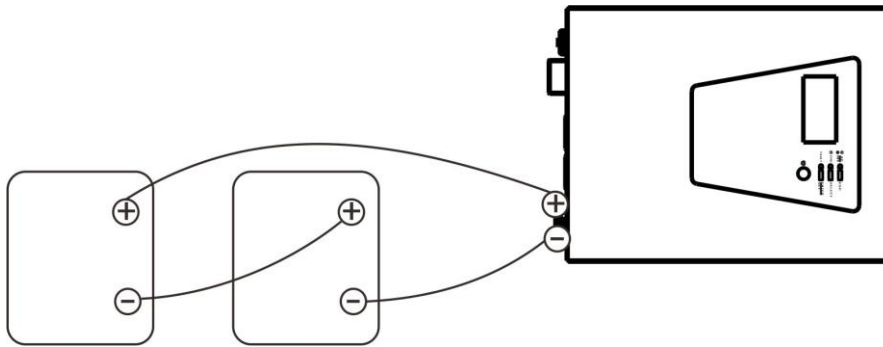

Fig 3
2) Multiple batteries in series connection(Refer to Fig. 3): All batteries must be equal in voltage and amp hour capacity. The sum of their voltages must be equal to the nominal DC Voltage of the unit.